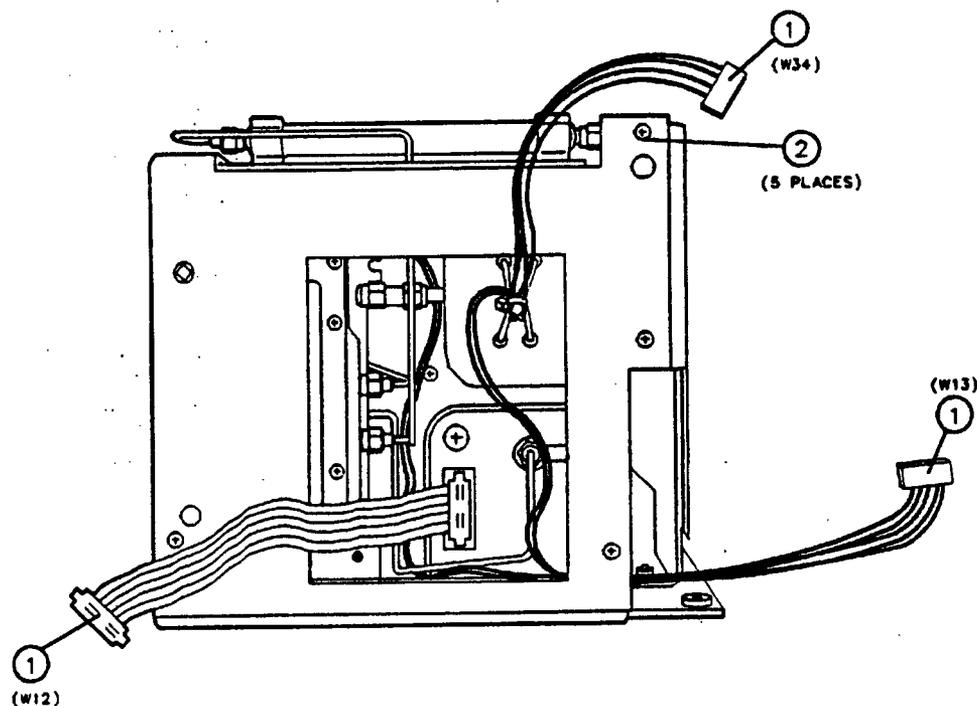

Figure 3-19. A3A6 Dual Mixer Replacement, Right-Side View
4. Note the cable dress of W12, W13, and W34 wire harnesses (1) that pass through the opening in the “D” bracket. See Figure 3-19. (This information is used later, during the A3A6 Dual Mixer replacement procedure.)
5. Remove the five screws (2) that hold the “D” bracket in place and remove the bracket.
17. Tighten the FL1 filter connection (4) to 10 inch-pounds using a 1/4 inch wrench on the W29 connector and a 5/16 inch torque wrench on the FL1 connector.
18. If the two screws and washers (5) on the cable clamps were removed, replace and tighten them.
20. Tighten the W29 semirigid cable (3) at A3A6J2 on the dual mixer to 10 inch-pounds using a 5/16 inch torque wrench.
21. Dress the W12, W13, and W34 cables (1) out through the opening in the "D" bracket. See Figure 3-19.
22. Replace the "D" bracket and the five screws (2) that attach the bracket to the front-end assembly.